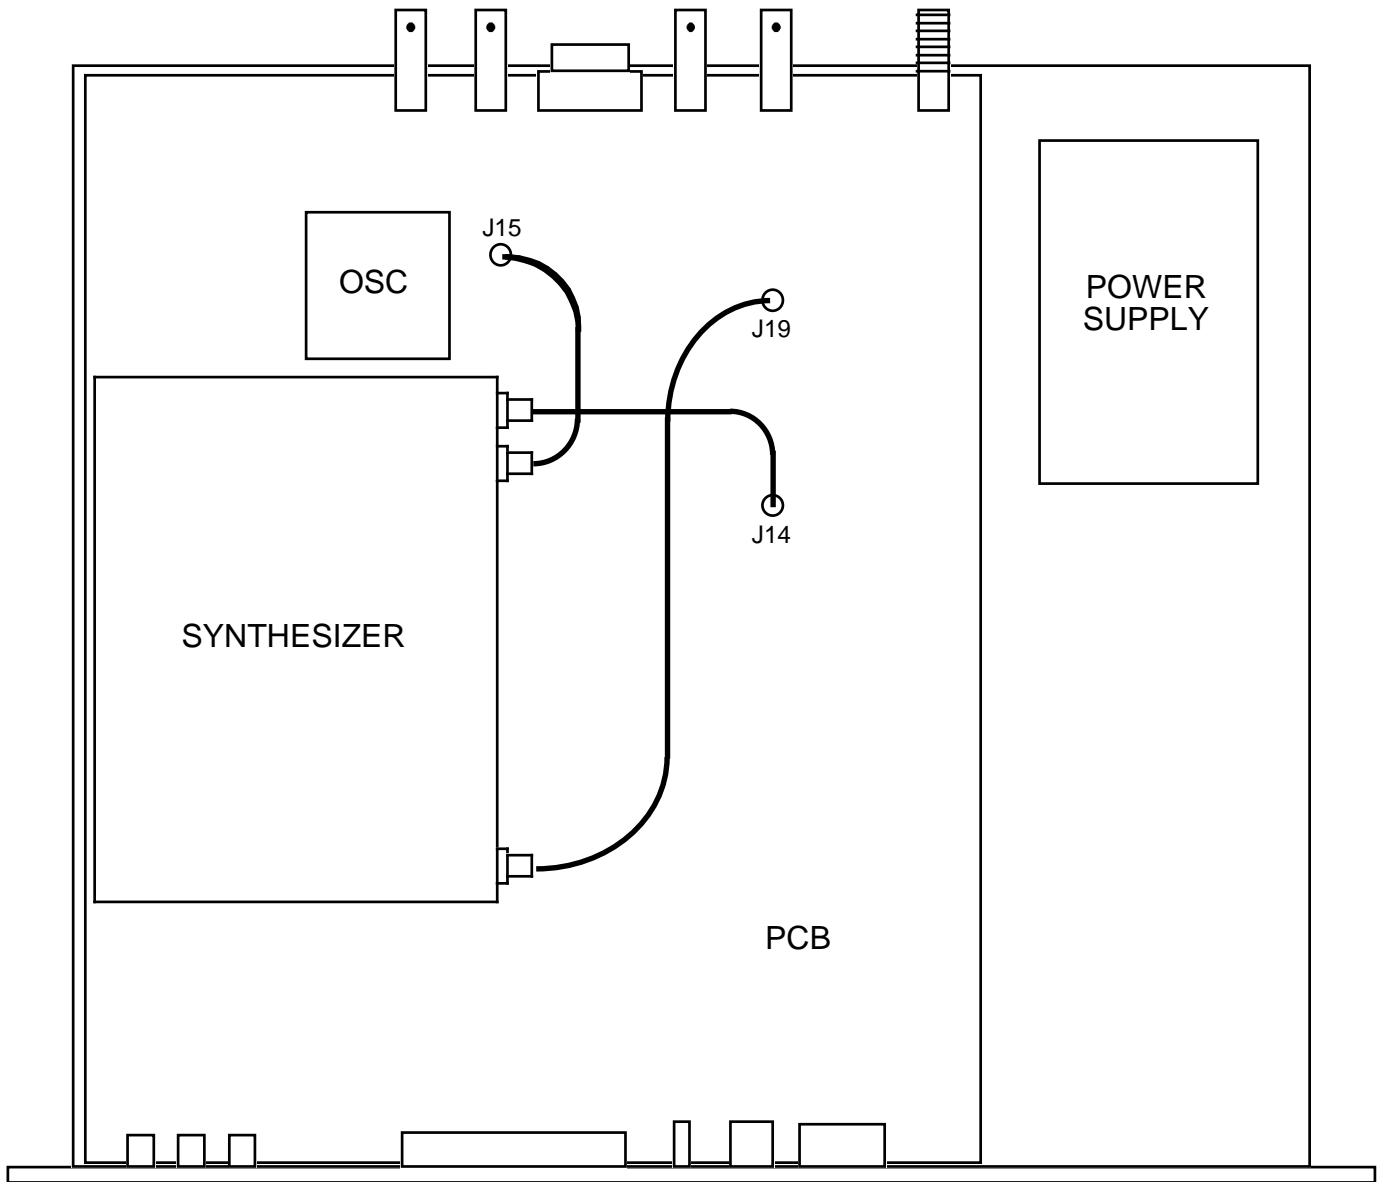

FIGURE 2.1 2016-12 Mechanical Assembly
2.1 Mechanical - The 2016-12 consists of one RF/Controller PCB which is housed in a 1 RU (1 3/4 inch high) by 16 inch deep chassis. A switching, ± 12 , +24, +5 VDC power supply provides power for the assembly. The 2016-12 can be secured to a rack using the 4 holes on the front panel. Figure 2.1 shows how the 2016-12 is assembled.